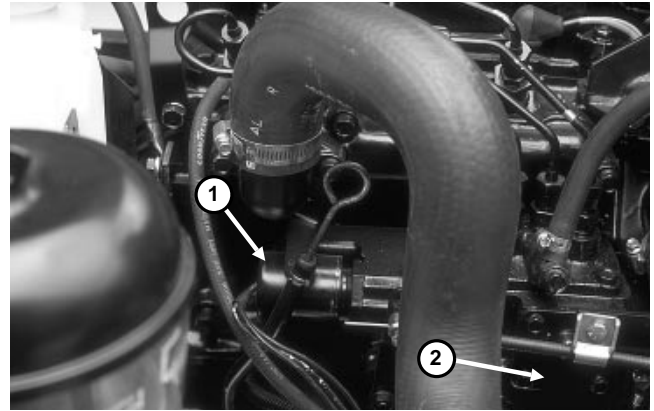

Figure 16
1. Remove the governor tie rod cover (Fig. 16).